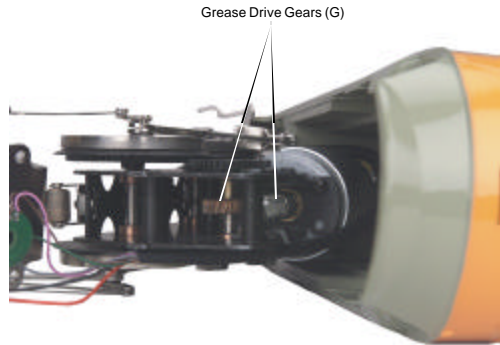

Figure 11 : Greasing the gears
3. As seen in Figure 11, once the drive train has been removed, access to the gearing is available. Lightly coat the motor worm gear and bronze drive gear (inside the drive train) with grease.